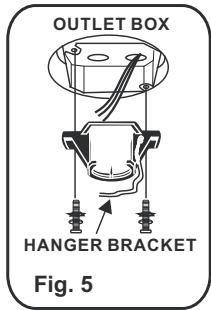

Fig. 5
**Step 1.** Secure the hanger bracket to the ceiling outlet box using screws and washers included with mounting hardware.(Fig.5)